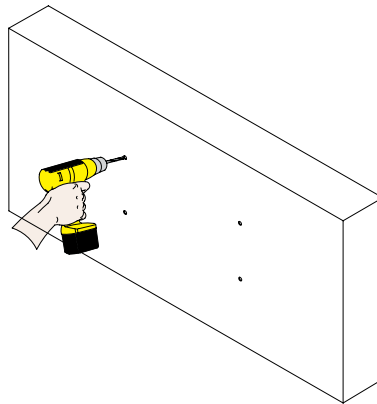

Figure 15. Drilling a Hole in Concrete
5. Use a power drill (not included) and 5/16" concrete drill (not included) bit to drill a hole at each of the marks (Figure 15).